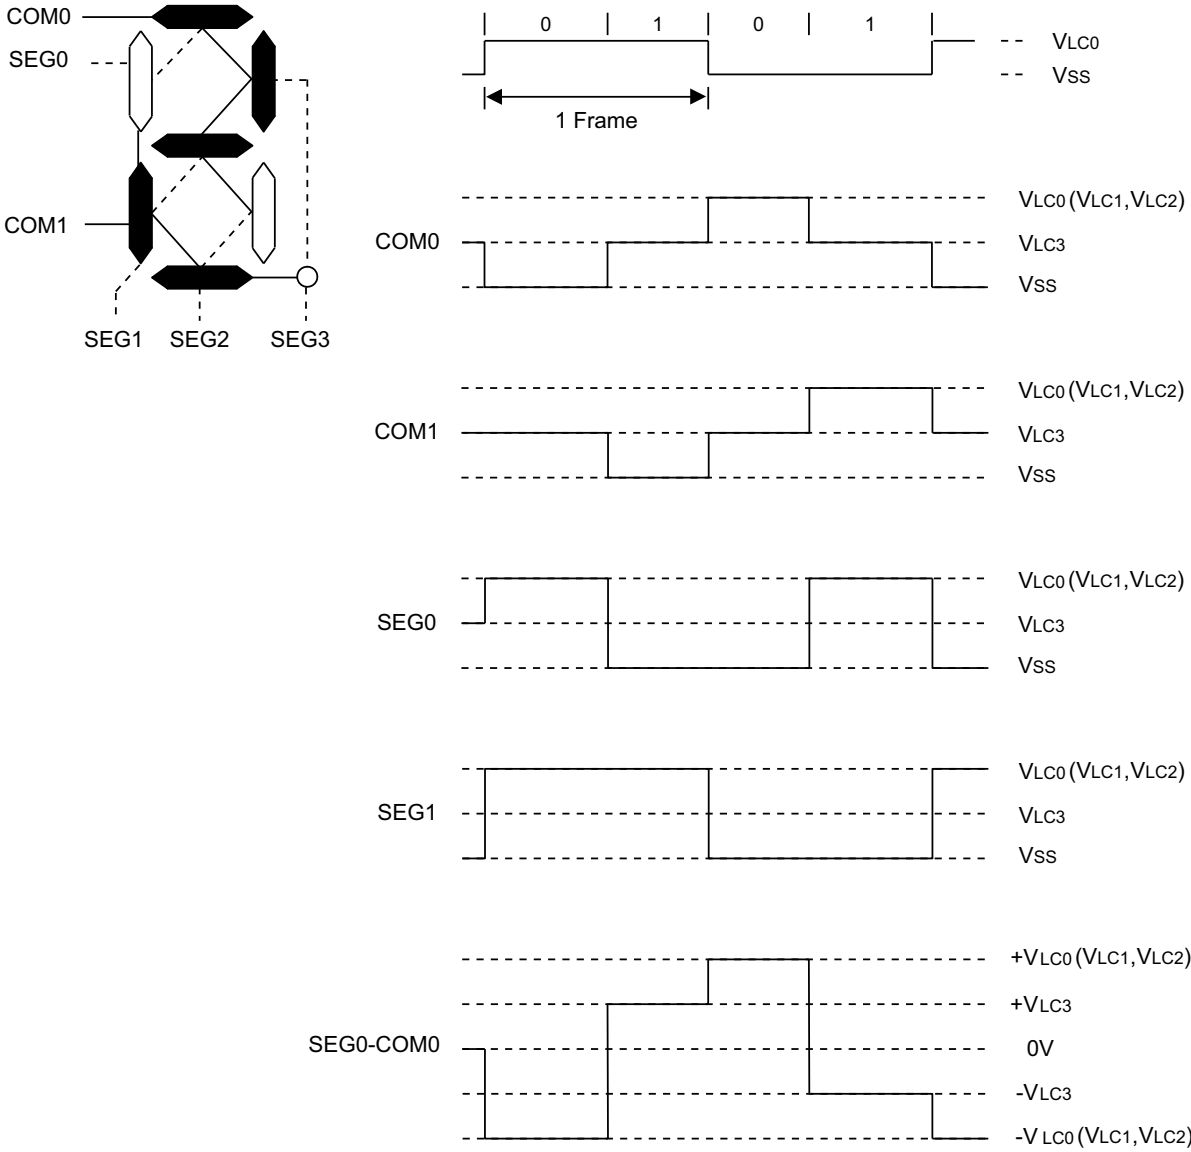

Figure 93. LCD Signal Waveforms: 1/2 Duty, 1/2 Bias
Figures 93 through 97 present waveforms of the LCD signal for differing duty and bias configurations.
► **Note:** In Figure 93, $V_{LC0} = V_{LC1}, V_{LC2}$.